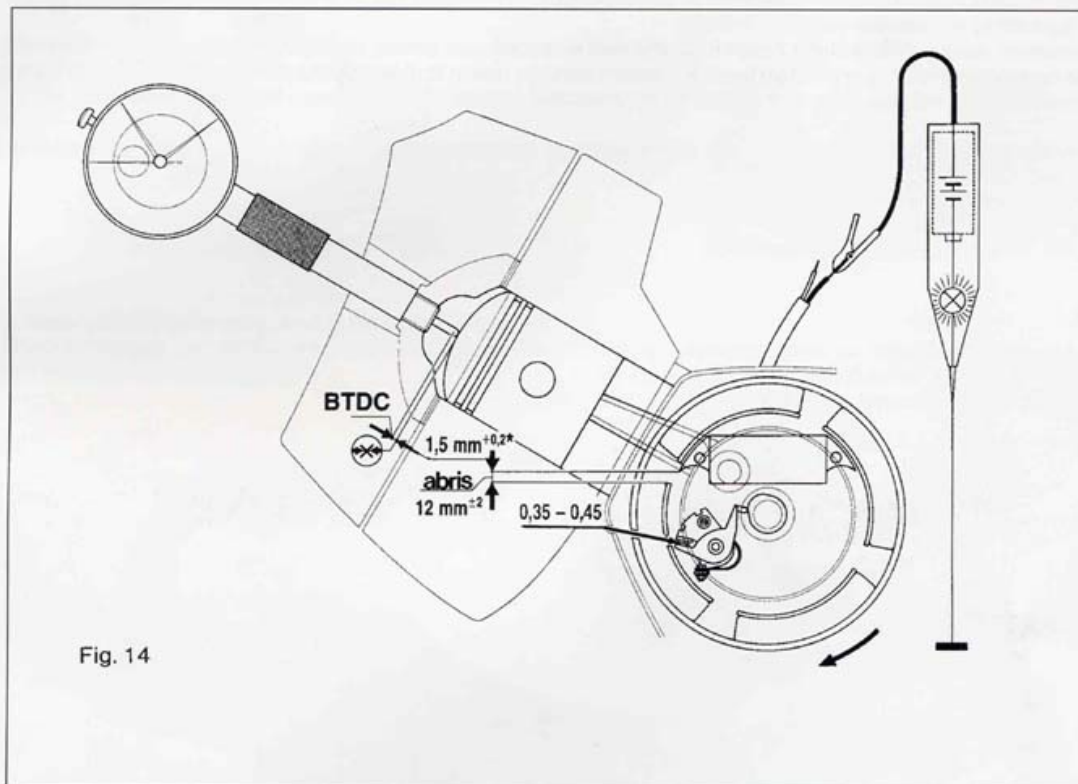

Fig. 14
For proper function of the engine is essential a correct ignition timing. The ignition advance should be  $1,5^{+0,2 \text{ mm}^*}$ . The most common cause of incorrect timing is due wear or damage of contact breaker points, wear of cam actuated breaker nose lever, damage of condenser. To provide the exact timing is necessary to replace faulty parts and proceed (fig. 14) as follows:
- For efficient spark intensity or high ignition voltage is essential a proper abris adjustment. As a matter of fact, it is the distance between the edge of the ignition coil pole shoe and the receding magnet pole edge at the opening point of the contact breaker and it should be within the range of  $12 \pm 2 \text{ mm}$  ( $0,473 \pm 0,079 \text{ in}$ ). The gap should be measured the moment the intensity of light or sound frequency is changed on the gauge (fig. 14).